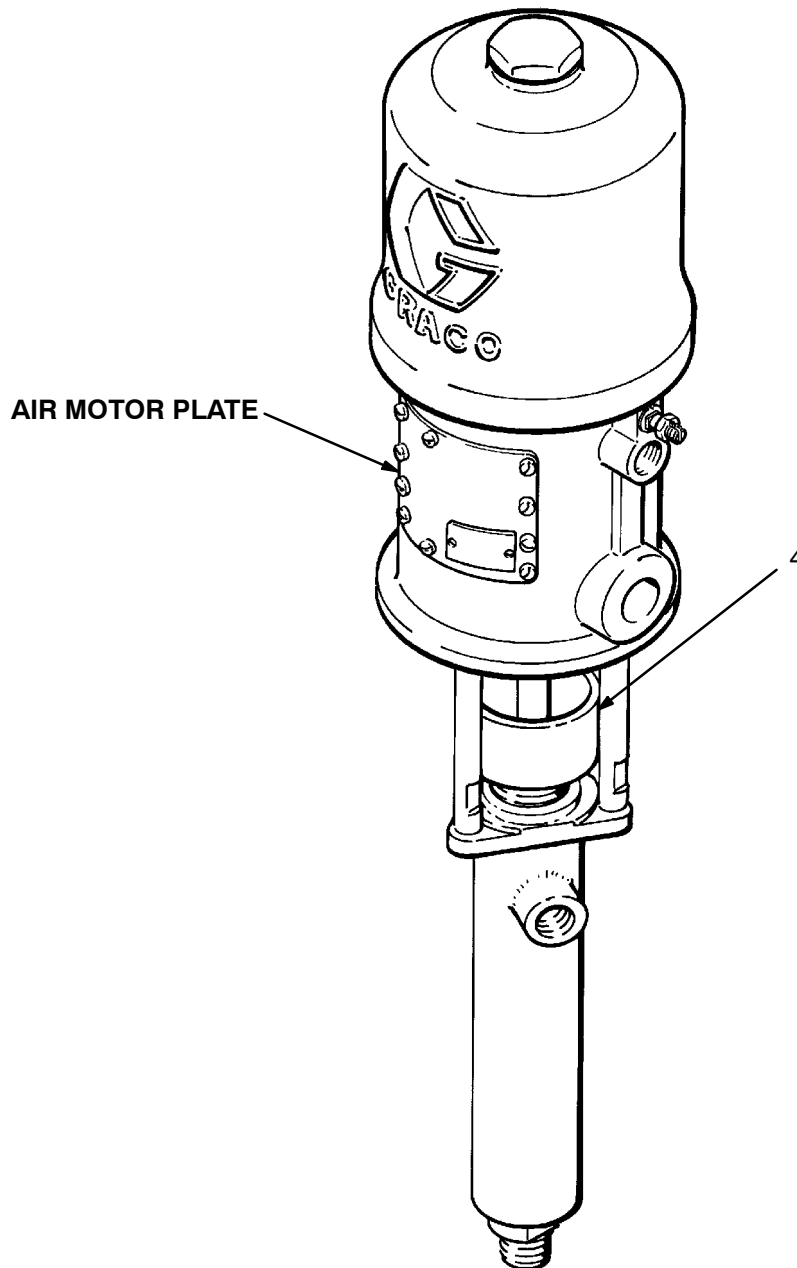

Fig. 2
Moving parts can pinch or amputate your fingers or other body parts. When air is supplied to the motor, the air motor piston (located behind the air motor plates) moves. See Fig. 2. Therefore, never operate the pump with the air motor plates removed.
Keep the packing nut/wet-cup (4) filled with Graco Throat Seal Liquid (TSL) or compatible solvent, to help prolong the packing life. Adjust the packing nut weekly so it is just tight enough to prevent leakage; do not overtighten. See Fig. 2. Always **relieve the pressure** before adjusting the packing nut.